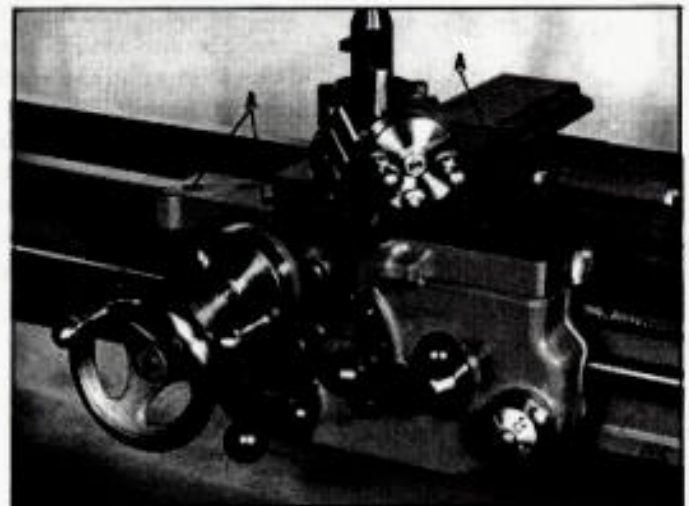
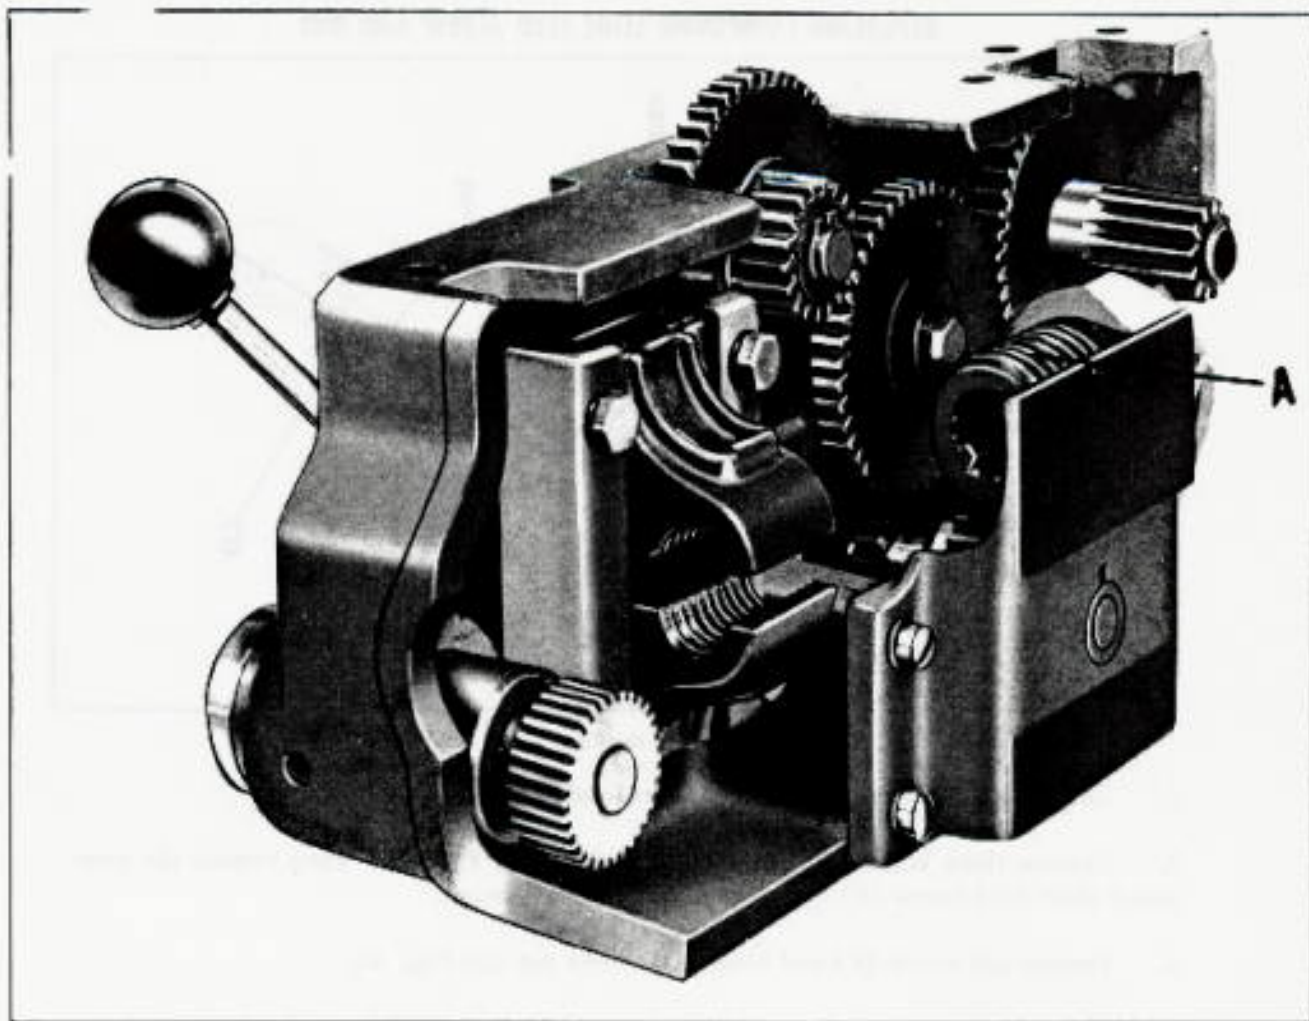

Fig. 44.
Fig. 45.
3. Loosen the three cap screws (A) Fig. 44, enough so that the apron will drop about a quarter of an inch.
5. The half-nuts, power feed clutch, and worm can now be replaced. Fig. 45 shows an interior view of the apron.
6. When reassembling the apron be sure to engage the key in the worm gear (A) Fig. 45, into the keyway in the lead screw and move the carriage onto the bed. When tightening the three screws (A) Fig. 44, move the apron handwheel back and forth to allow the lead screw and pinion in apron to mesh. Before tightening the two screws on the lead screw bracket, run the carriage the full length of the lathe to make sure no binding occurs.